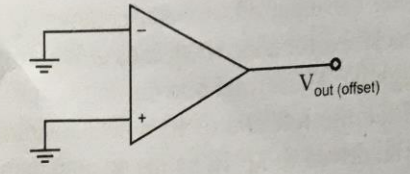
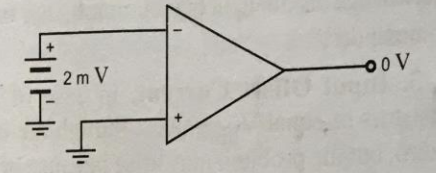

Fig. 13.16 Output Offset Voltage
Fig. 13.17 Elimination of Output Offset Voltage
**1. Input Offset Voltage.** When the inputs of the op-amp are grounded, there is almost always an *output offset voltage\**, as illustrated in Fig. 13.16, because the input transistors have different  $V_{BE}$  values. For instance, the data sheet of a typical 741C lists a maximum input offset voltage of  $\pm 2$  mV. This difference of 2 mV is an unwanted input signal that is amplified to give an *output offset voltage*. The output offset voltage can be eliminated by applying a voltage of 2 mV to the inverting input as shown in Fig. 13.17. Then the output offset voltage is reduced to zero. Since the offset can have either polarity, it might be necessary to reverse the polarity of the 2 mV.
The adjustment explained above (Fig. 13.17) could be made to eliminate offset errors if the offset voltages were constant. But these voltages are not constant and depend upon temperature and other parameters such as supply voltage.